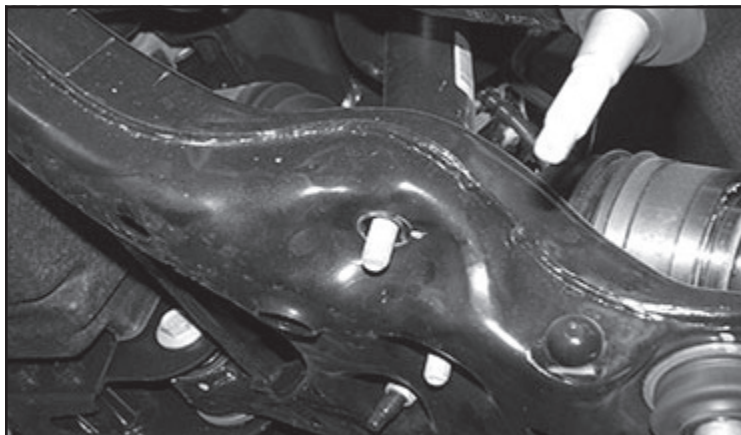

FIGURE 4 - STEP 5
5. Remove the lower coilover nuts. Save hardware. **SEE FIGURE 4**